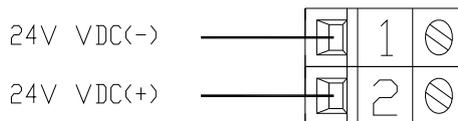

Figure 5: Power Supply Connection Diagram
4.6 The instrument is connected to 24V DC power (figure 5: Power Supply Connection Diagram).